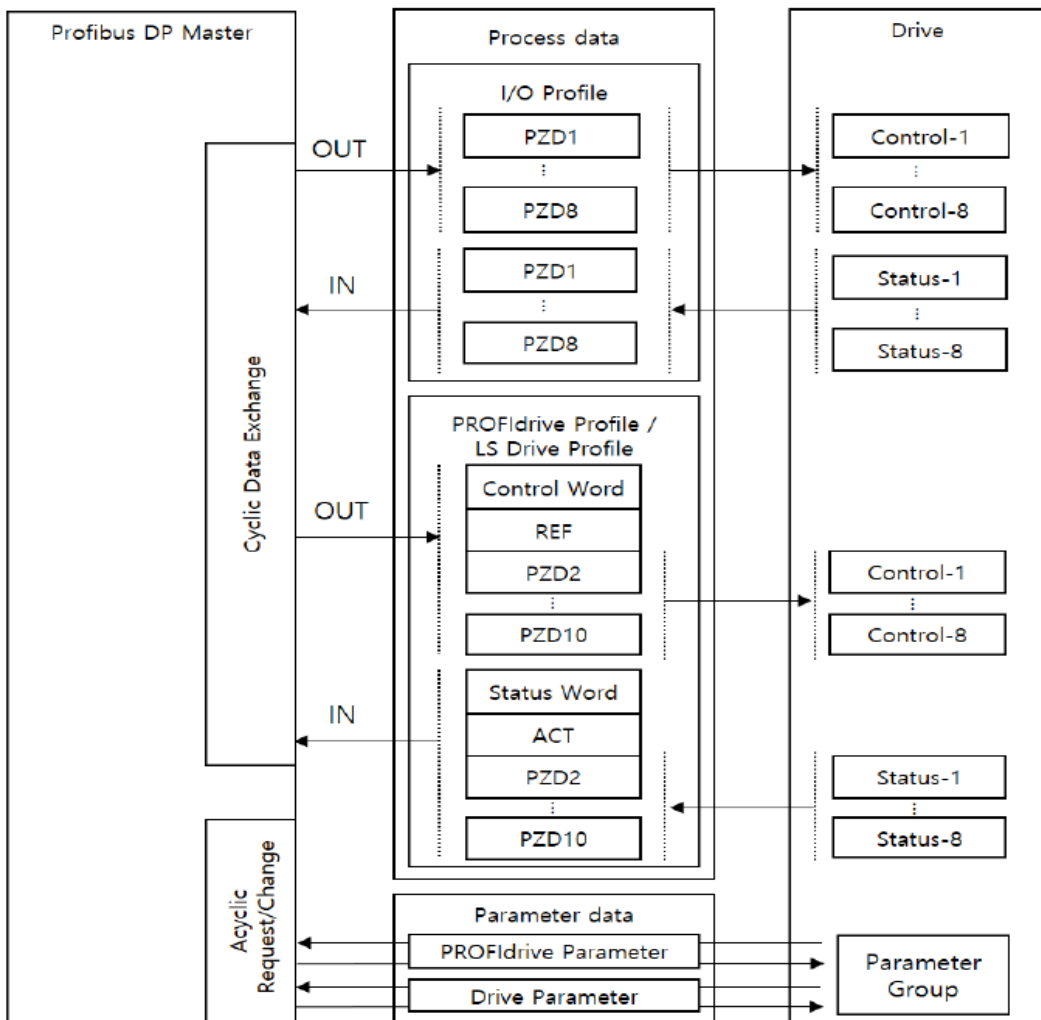

Figure 4. Data Transfer between PROFIBUS DP Master and Drive
Proceeds with the data exchange without applying a separate profile. PZD 1-8 is set according to the parameter address value specified only in Para Control-1-8 and Para Status-1-8, and the number of words to and from the master during I/O configuration shall match the 4.2.4 Para Status Num and 4.2.6 Para Ctrl Num settings. Applies only when using the vendor specific telegram (100). \* See Figure 4 I/O profile.